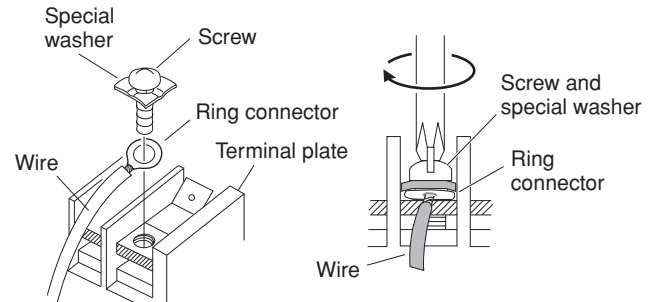

Fig. 13
- (4) Place the ring connector wire, and replace and tighten the removed terminal screw using a screwdriver. (Fig. 13)